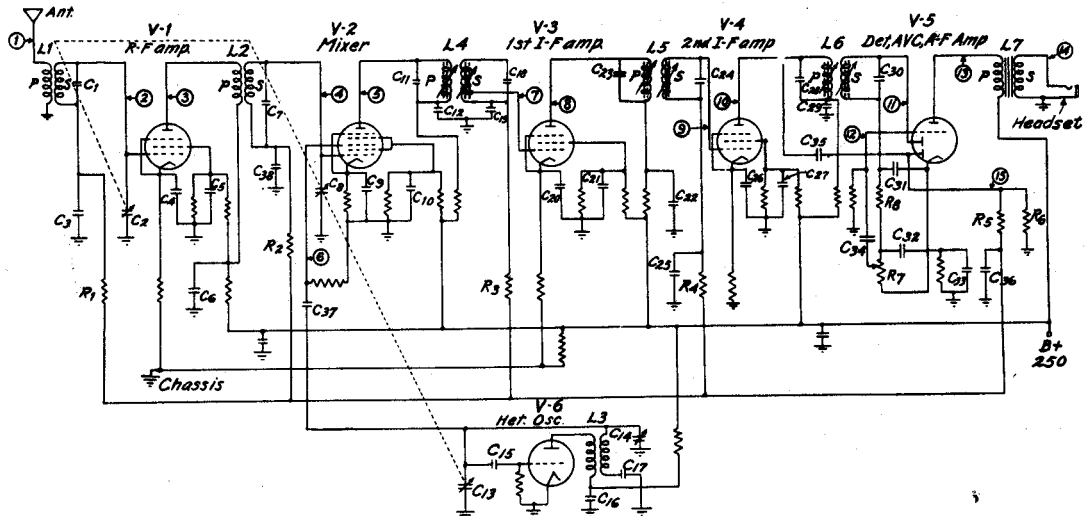

Fig. 4.—Schematic diagram of a superheterodyne receiver, showing test points.
b. *Operational tests (signal tracing).*--(1) To make an operational test of a superheterodyne receiver similar to figure 4, use a signal generator connected to the antenna and ground terminals of the set, and a VTVM (vacuum tube voltmeter) for making output signal measurements at successive stages in the set. The VT voltmeter must be sufficiently sensitive to give readings at the input end of the set. It should have a low range of 0 to .5 volt or even less. The input impedance should be at least 2 or 3 megohms. If the tester starts at the 1st radio frequency (r-f) amplifier (V-1) and works toward the audio-frequency (a-f) amplifier, the stage where the signal ceases is the one causing the trouble.
(2) In the absence of a sensitive electronic or VT voltmeter, it is possible to vary the procedure by connecting the signal generator successively to the input circuits of the a-f amp stage, detector, i-f amp stages, mixer and r-f amp stages. The receiver loudspeaker or headset will give an audible indication of the stage at which the signal ceases. In using the signal generator with this second method, it is essential to adjust it to generate a signal of the same frequency as that to which the stage under test is tuned. For example, in superheterodyne receivers the i-f amplifier stages always are tuned to a different frequency from the mixer and r-f stages. In this manual the maintenance data sheets for a particular receiver indicate the frequency which should be used for testing and aligning both i-f and r-f stages.
(3) Figure 4 shows a typical superheterodyne receiver. Starting at the antenna, we will go through a stage-by-stage analysis using the first method of testing with a signal generator (such as an I-72-B) and a sensitive VT voltmeter. It is assumed that tubes already have been tested, and resistance, current, and voltage checks made. Test the signal generator and VT voltmeter before using to be certain that they are operating properly. This can be done by connecting them to a receiver which operates perfectly and noting whether a meter deflection occurs when the signal generator and receiver are properly adjusted. After connecting the signal generator to the receiver antenna post and chassis, adjust both generator and receiver to the proper frequency (the frequency must be within the tuning range of the receiver r-f stage when using this first method of testing).
(4) Set the OUTPUT control of the signal generator to give unmodulated output and the attenuator STEP and VERNIER controls to 1 and 0 respectively. Connect the VT voltmeter prods to the receiver chassis and to point ① of the receiver shown in figure 4. Adjust the meter for its lowest range. Now *carefully* adjust the two attenuator controls on the signal generator until a deflection is observed on the VT voltmeter. If no reading can be obtained, there is either a short circuit to ground through the primary of the antenna coil (L_1), or, if the receiver has a band switch arrangement, the trouble may be in the switching mechanism.